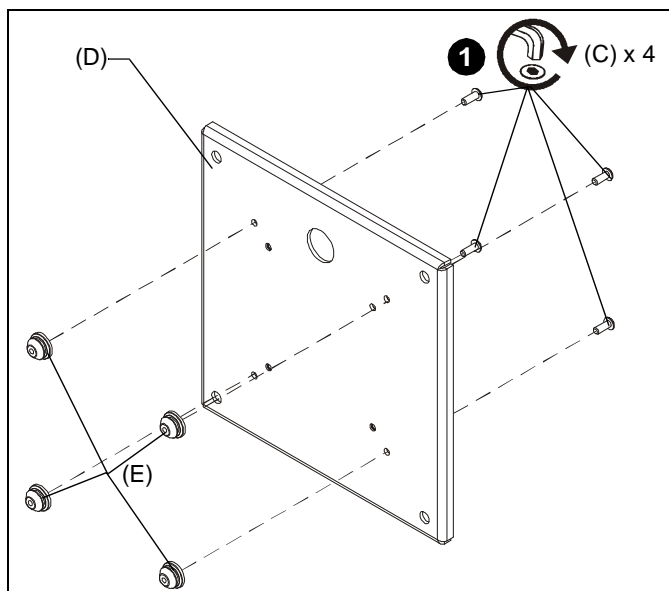

Figure 1
1. Attach mounting buttons (E) to interface bracket (D) using four 10-24 x 1/2" button head cap screws (C) and the 1/8" hex key (G). (See Figure 1)